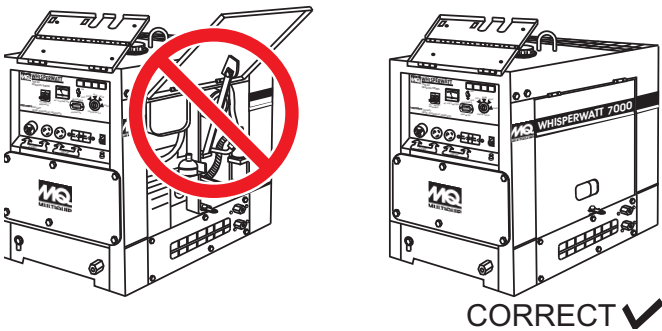

Figure 15. Generator Doors
2. **NEVER** operate the generator with the doors *open* (Figure 15). Operation with the doors open may cause insufficient cooling of the unit, and engine damage may result. Close the doors for normal operation.